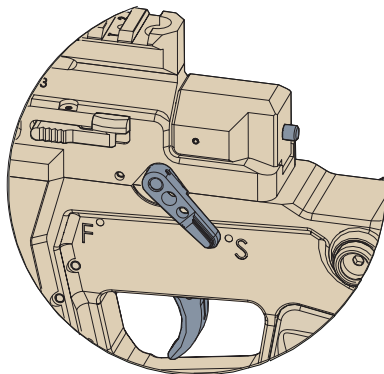

Fig 1-3
- Move the safety lever fully rearwards into the 'SAFE' position. See Fig 1-3 on page 3.